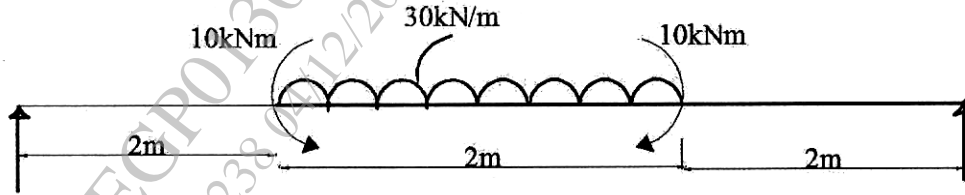

Fig. 7
6. (a) Draw SFD & BMD for the simply supported beam as shown in fig. 7 [6]